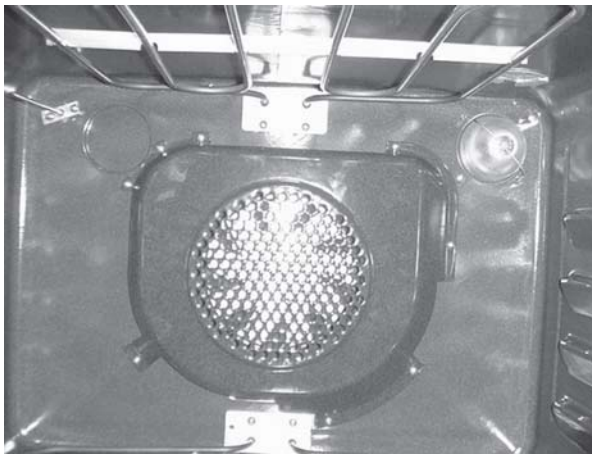

**Fig. O-12**
3. Unhook all wiring from Lock Motor (**Fig. O-12**).
4. Remove the (2) screws holding the Lock Motor to the Rear Plate.